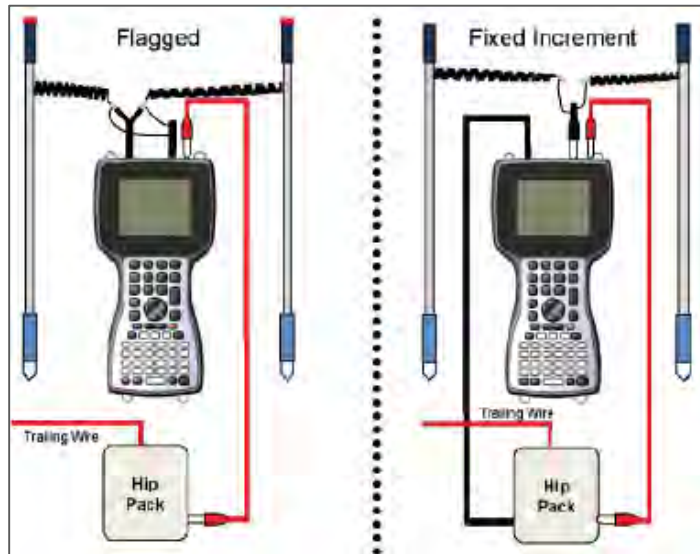
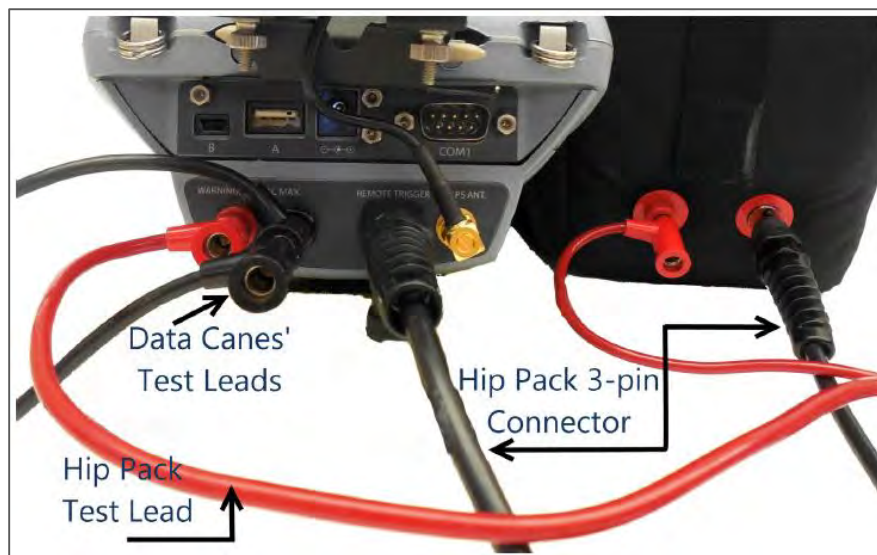

Figure 2. Allegro and Hip Pack Connections – View 1
Figure 3. Allegro and Hip Pack Connections – View 2
- When using a hip pack to measure voltages, always connect the hip pack test lead to the red banana jack on the Allegro (Figure 2 and Figure 3).